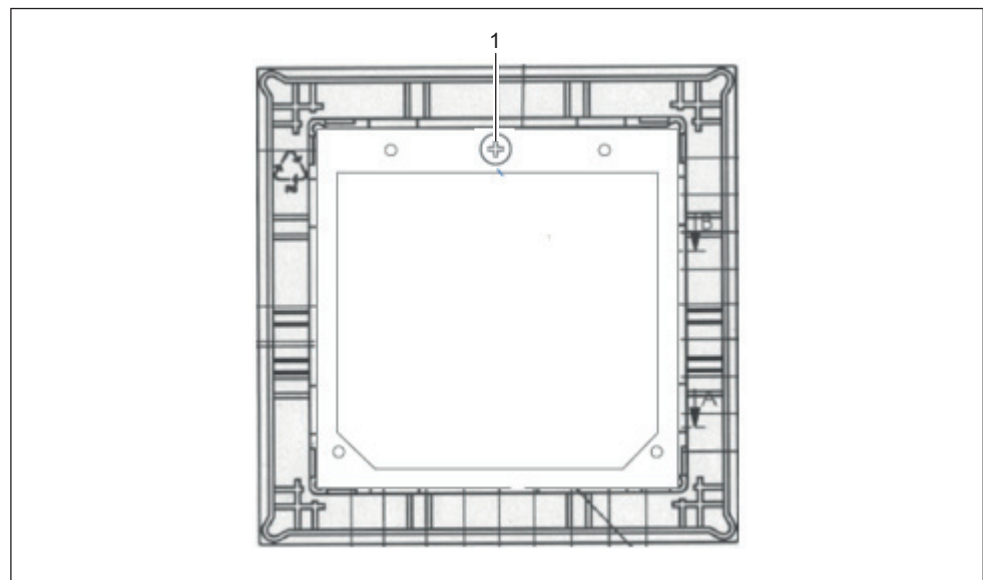

Fig. 18: Delivery condition of Siedle blind module (not supplied)
1. Release the clamping plate (Fig. 18/1) and remove it from the blind module (not supplied).